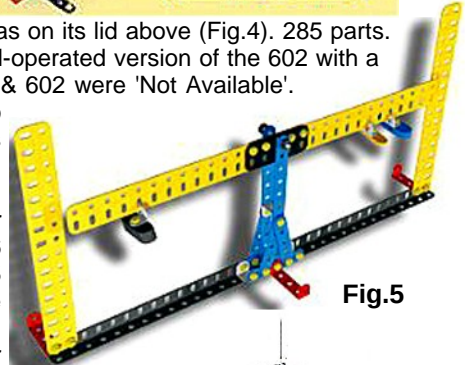

Fig.5
• **Arquimedes II**, a set for experiments with Levers. 82 parts, plus full instructions and a CD. The lid shows the model in Fig.5.